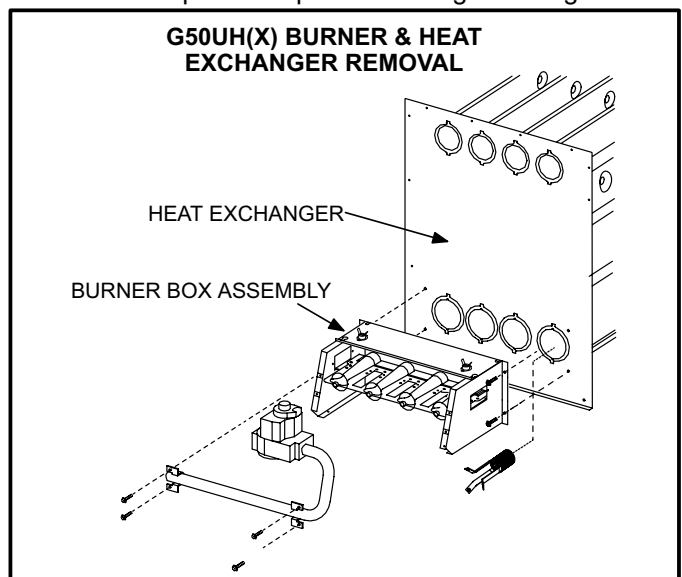

FIGURE 30
- 3 - Remove the four screws that secure the combustion air inducer. Carefully remove the combustion air inducer to avoid damaging blower gasket. If gasket is damaged, it must be replaced to prevent leakage. See figure 30.